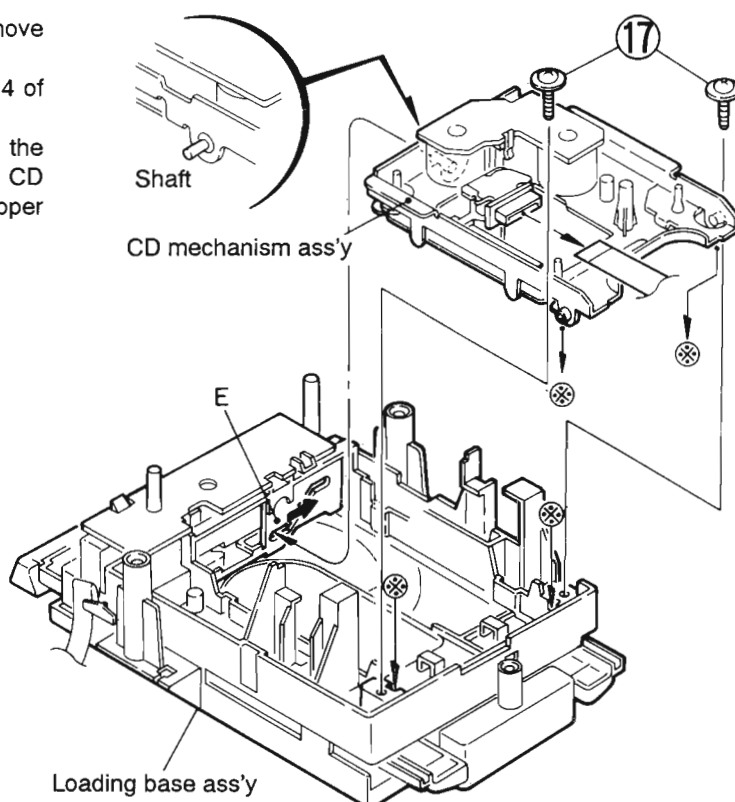

Fig. 5-15
■ How to Remove the CD Mechanism Ass'y (Refer to Fig. 5-15)
4. Remove the two screws with springs (17) retaining the CD mechanism ass'y. For reassembly, mount the CD mechanism ass'y while inserting the shaft at the upper part of the ass'y into the slide groove (E).